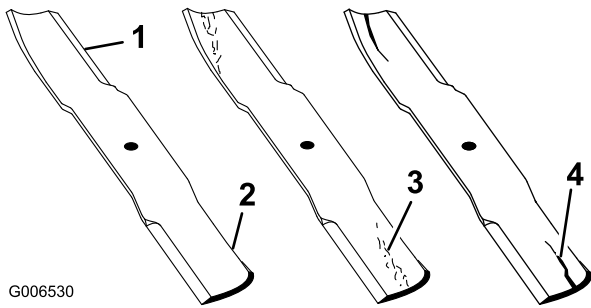

Figure 42
1. Inspect the cutting edges (Figure 42). If the edges are not sharp or have nicks, remove and sharpen the blades; refer to Sharpening the Blades.
2. Inspect the blades, especially the curved area (Figure 42). If you notice any damage, wear, or a slot forming in this area (items 3 and 4 in Figure 42), immediately install a new blade.